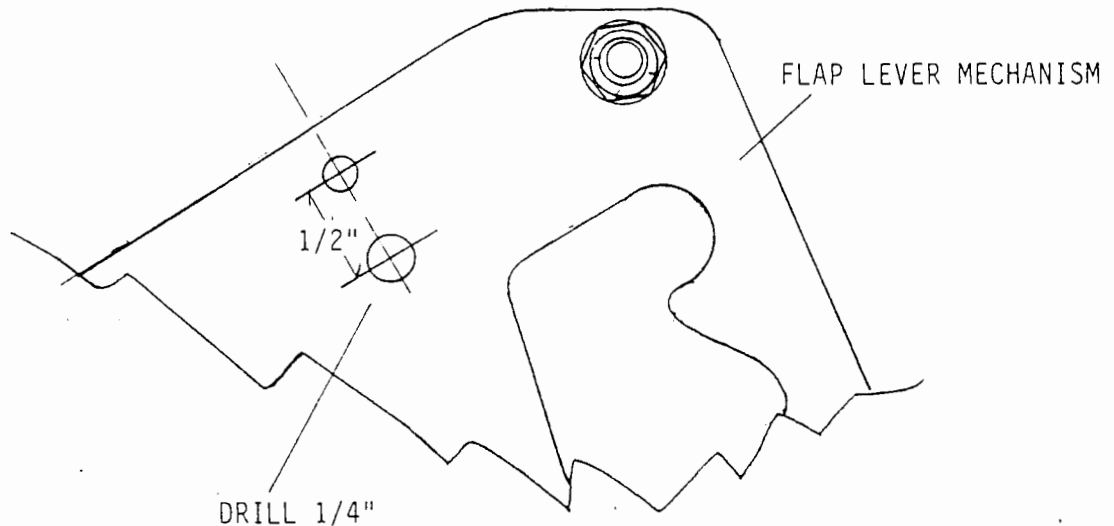

FIGURE 09B-01
1. Locate and drill a 1/4" diameter hole through the flap lever side plates 1/2" below the existing #11 hole. See Figure 09B-01.